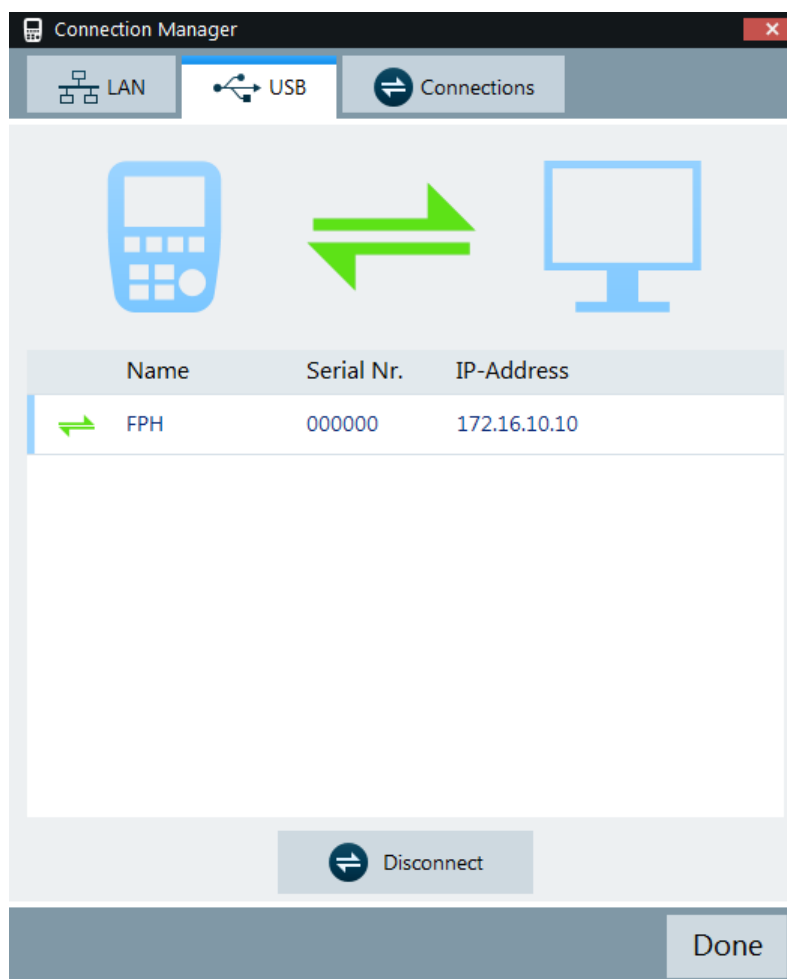

Figure 3-13: USB connection
3. There is only one USB instance in the connection manager list. See Figure 3-13. Depending on the connection status icon,   you can connect or disconnect an instrument from the connection manager list